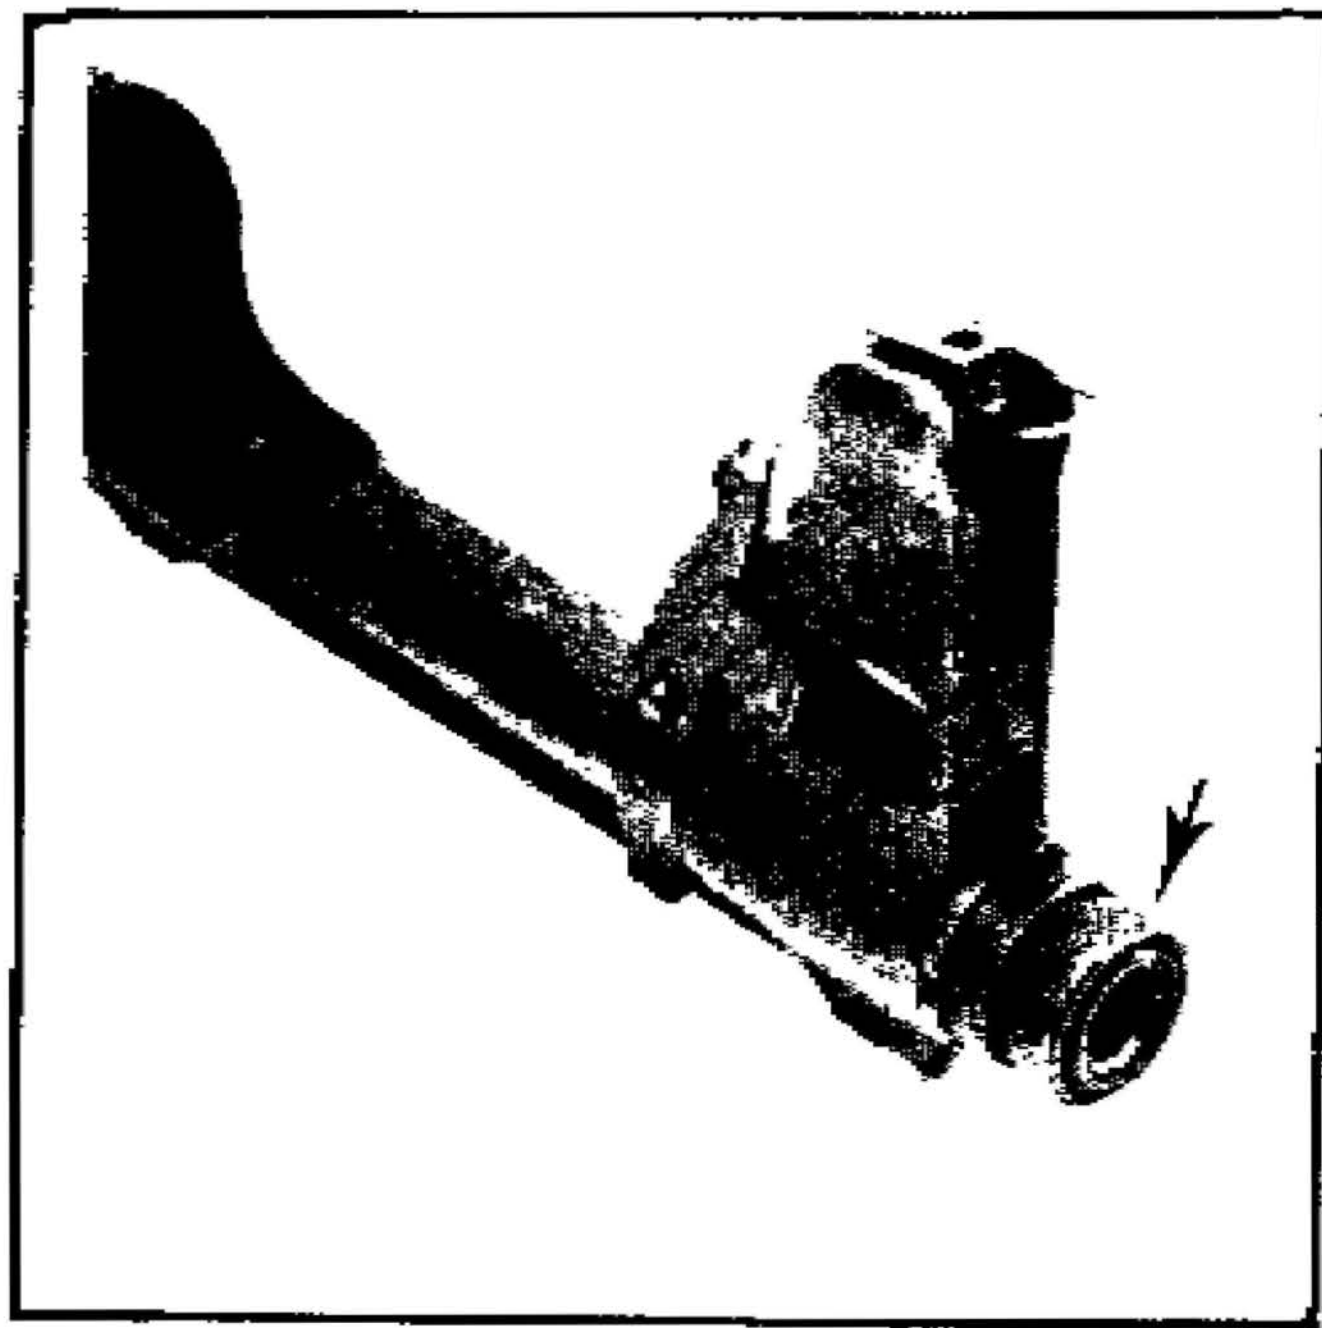
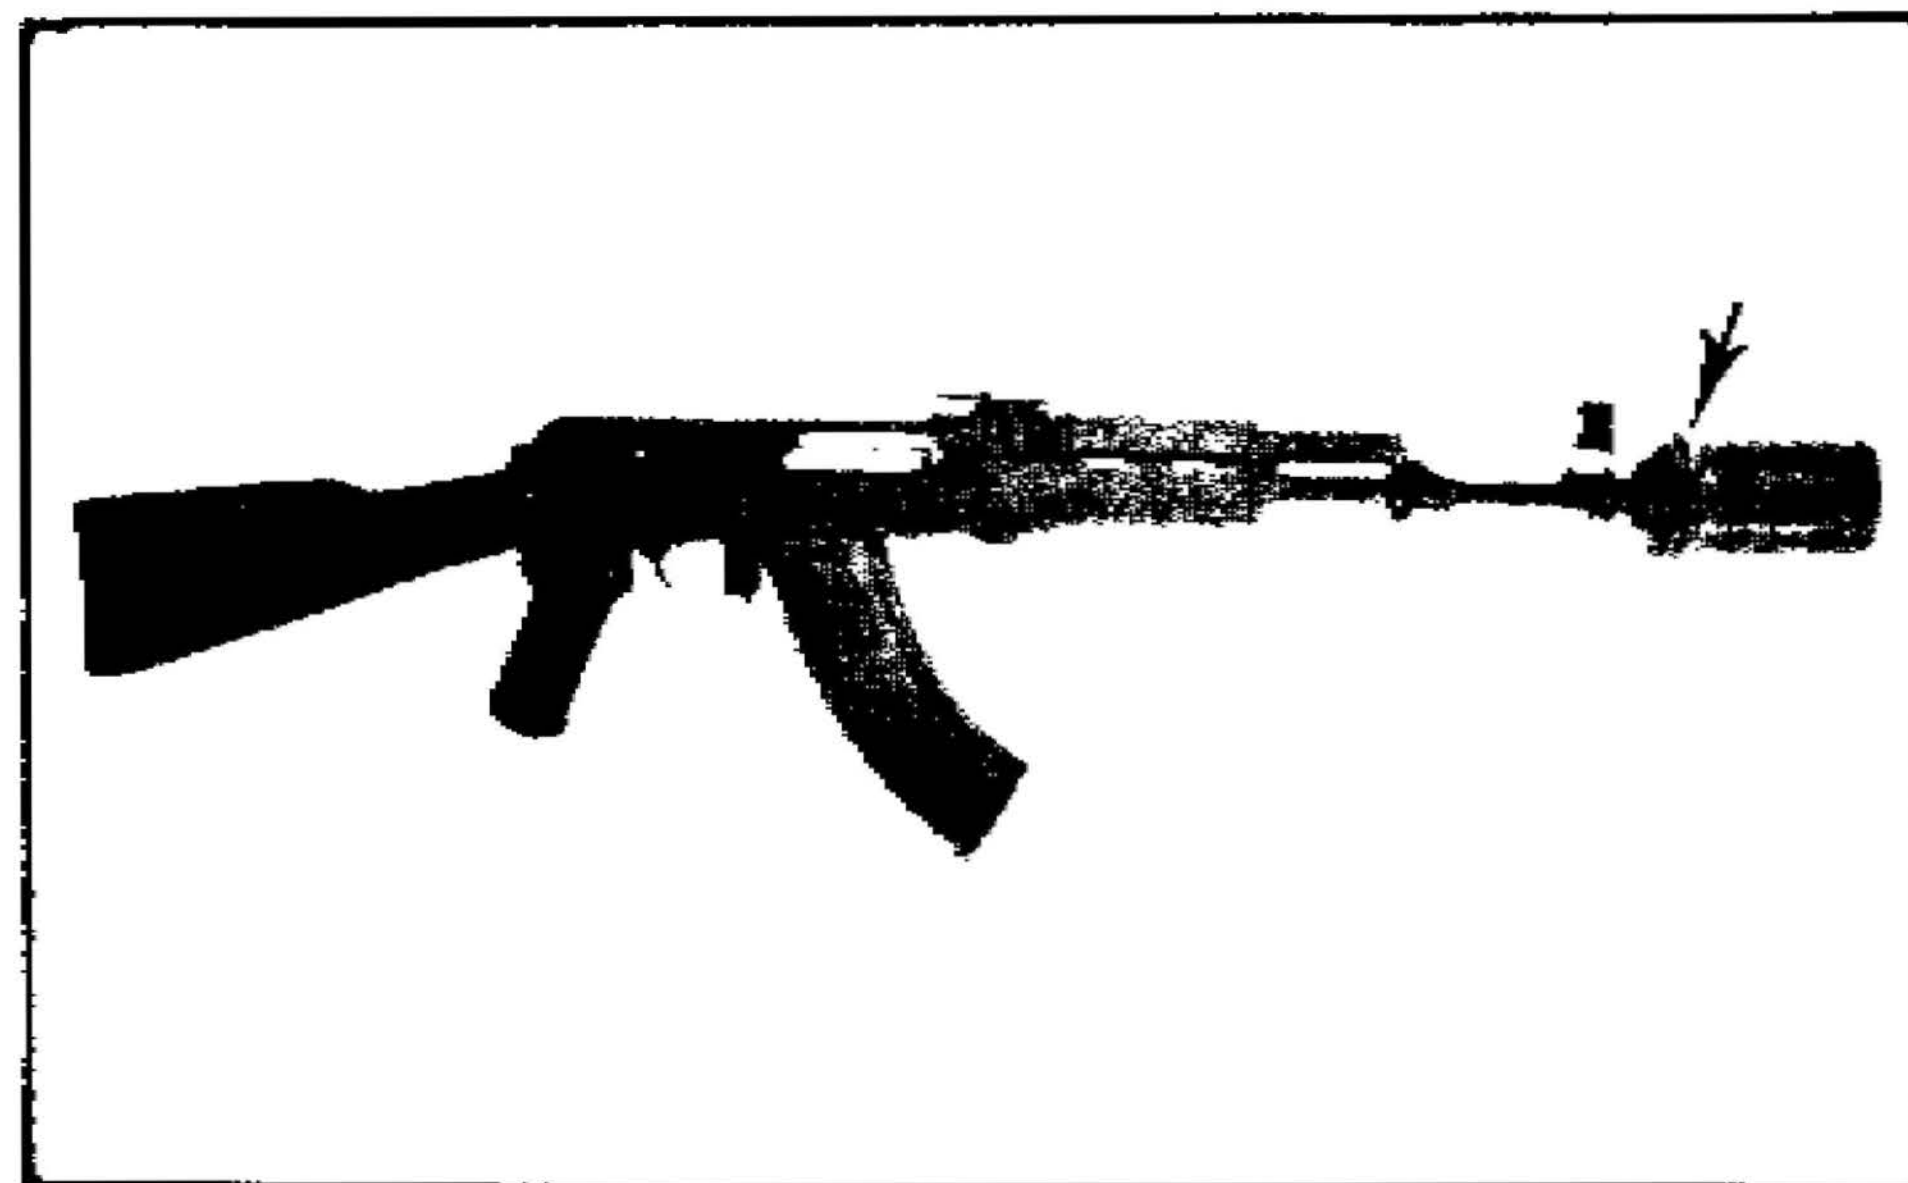

FIGURE 53. MUZZLE NUT
FIGURE 54. LAUNCHER
**Hand grenade launcher:** The hand grenade launcher is installed by removing the muzzle nut (fig 53) and screwing the launcher onto the weapon (fig 54).